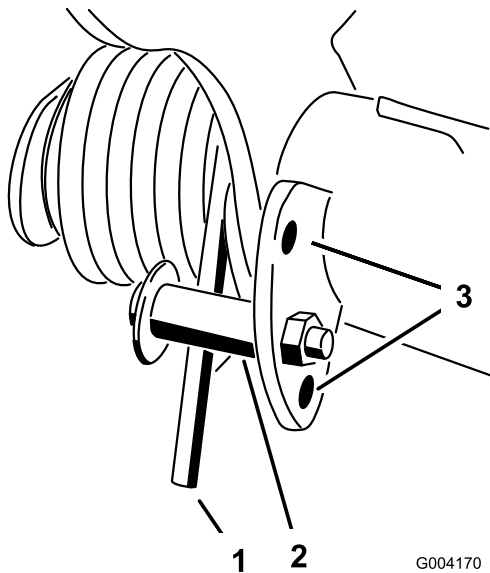

Figure 41
2. Insert a tube or similar object onto the long spring end to relieve the spring tension during the adjustment (Figure 41).
3. While relieving the spring tension, remove the bolt and locknut securing the spring actuator to the bracket (Figure 41).